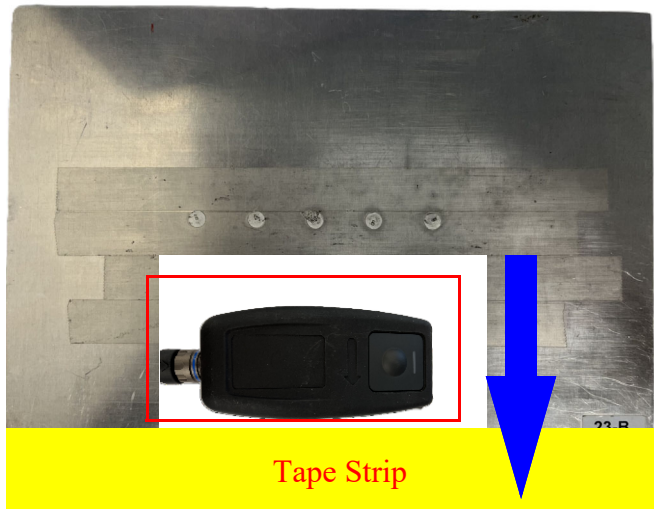

Figure 4-60 Position the Probe
4. Position the probe on the flawless area of the reference standard and press **Null** (See Figure 4-60 on page 164).